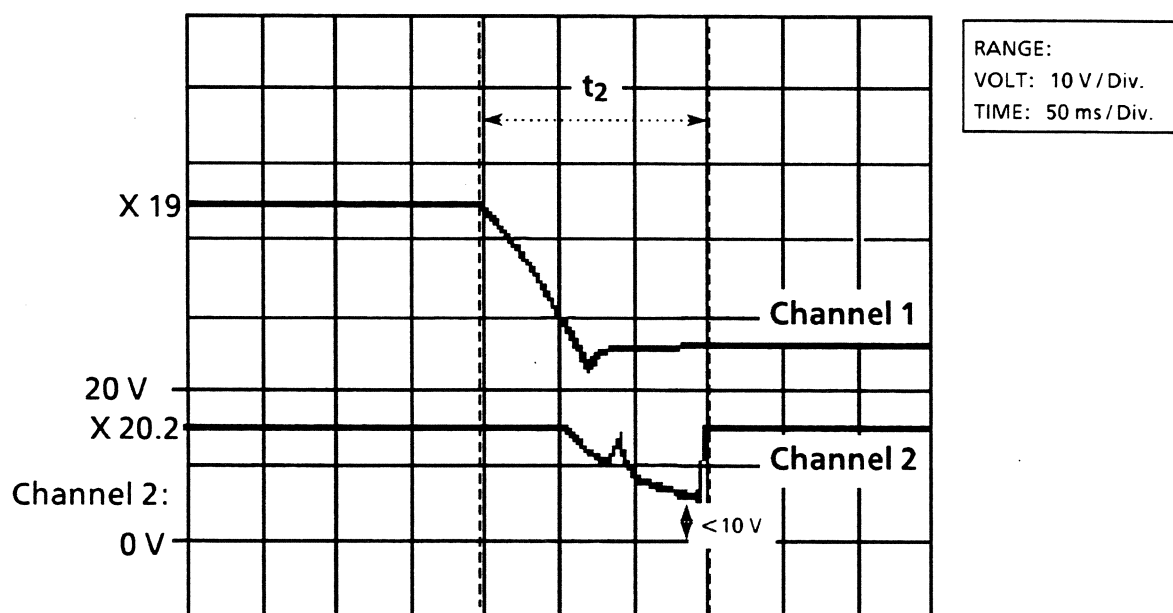

Fig. 7-22 Voltage at X19 with switchover from external battery operation to accumulator
- ▶ Check of the voltage characteristics at X19 and X20.2 on the oscilloscope (fig. 7-22):